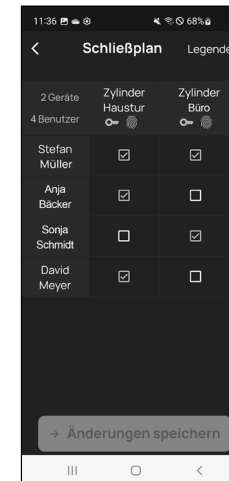

Fig. 3
**!** **For info:** This table is of interest when you have several cylinders and users. This allows you to clearly determine in one step who is allowed to access which cylinder. Fig. 3 provides an example of what a completed table with corresponding cylinders and users might look like.